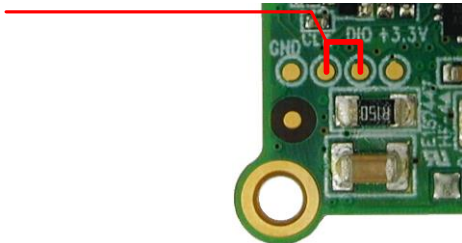

Figure 5.1 Reset to factory default settings
For this procedure it is necessary to disassemble the PANdrive and shorten two pads on the bottom side of the printed circuit board (see Figure 5.1).
2. Short two pads as marked in Figure 5.1